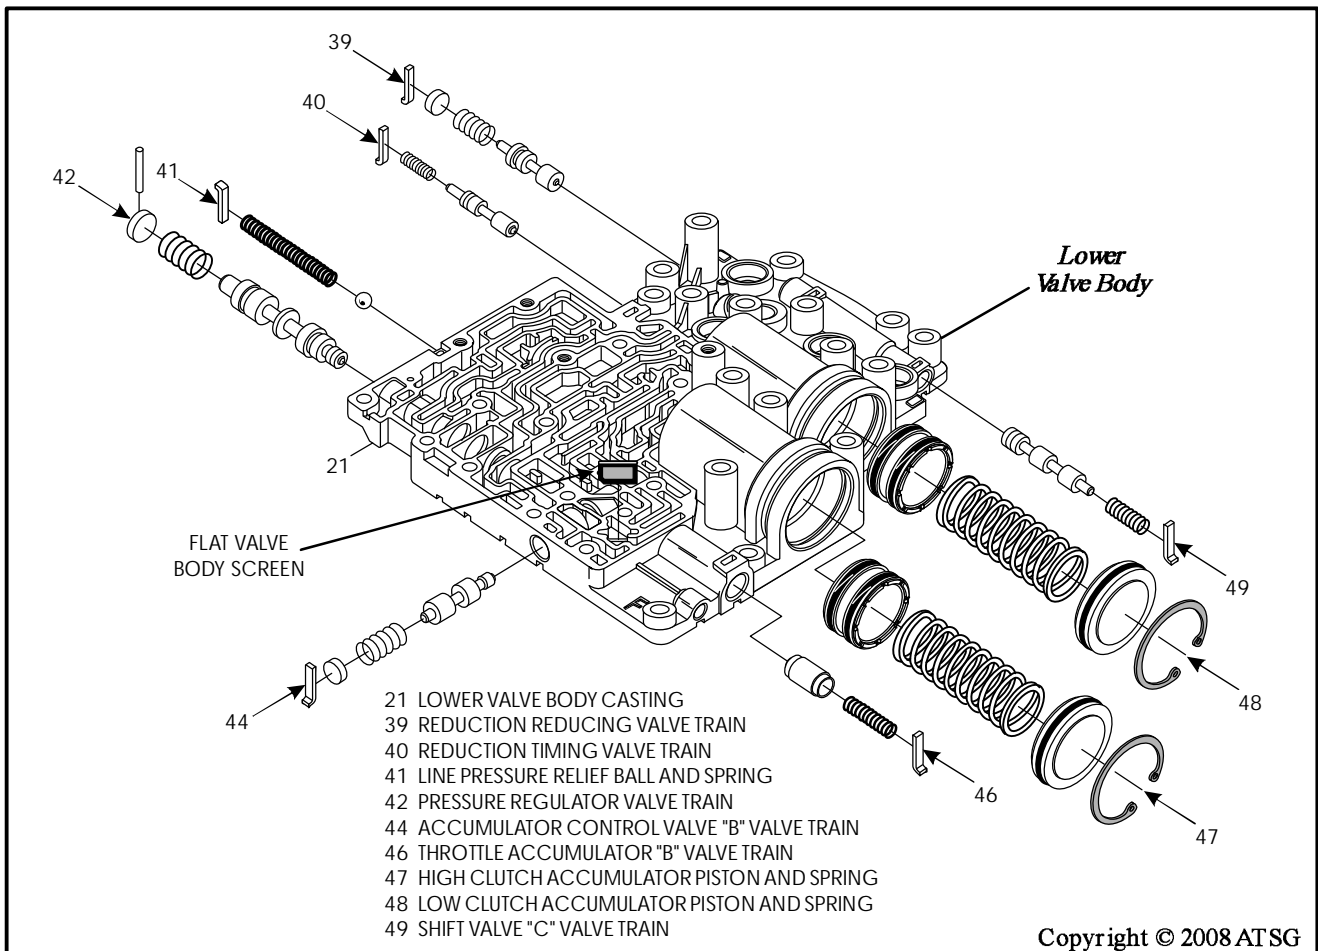

Figure 163
9. Disassemble the lower valve body, as shown in Figure 163, and place the valves, bore plugs and retainers in appropriate trays exactly as they were removed.
11. Assemble lower valve body parts exactly as they are shown in Figure 163, and lube with proper ATF as they are installed.
- Note: Install the retainers exactly as shown in Figure 163, as they install in different directions through out the valve body.**
12. Install the flat valve body screen into position as shown in Figure 163.
14. Lubricate both pistons and seals with a small amount of the proper ATF and install them into the bores, as shown in Figure 163.
16. Install both high and low clutch accumulator springs, that were previously labeled, in their proper positions, as shown in Figure 163.
18. Compress the cover and install the snap ring shown in Figure 163.
20. Compress the cover and install the snap ring shown in Figure 163.